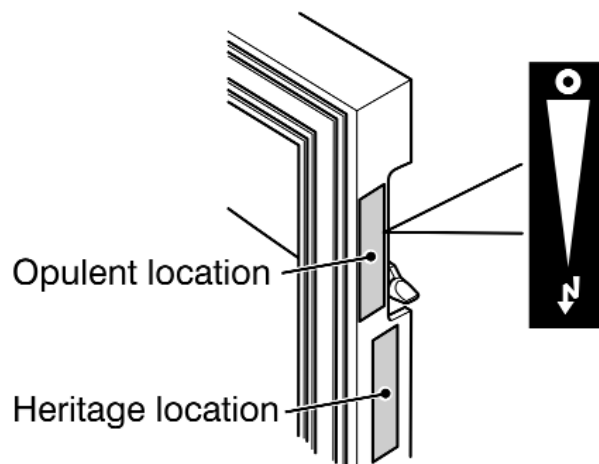

Figure 29. Control position label
**Step 5.** Supplied with the fire is a self adhesive control position label. Peel the backing from the label and position as in figure 29.
3. Supplied with the fire is a self adhesive control position label. Peel the backing from the label and position as in figure 29.